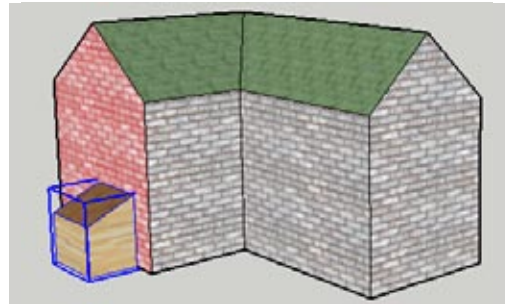

Figure 6-5
5. Now you can move the shed to the red wall, which sits on a different plane (Figure 6-5).